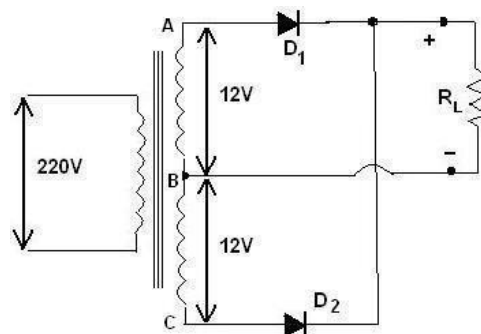

Figure 6.2. 2-Phase Full Wave Rectifier
- Make a full-wave rectifier circuit using IN4001 diode as shown in Figure 6.2., with $R_L = 10 \square \square$